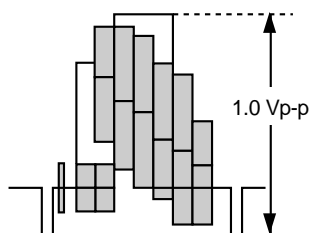

Figure 5-4.
2. Connect a 75 ohm terminating resistor to the VIDEO OUT jack and connect an oscilloscope across this terminating resistor. (See Note below ①)
4. Make sure that the output signal amplitude is 1.0Vp-p as shown in Figure 5-4.